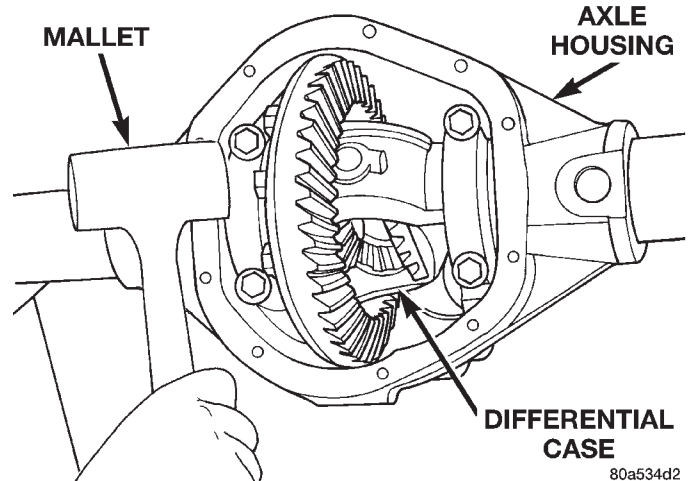
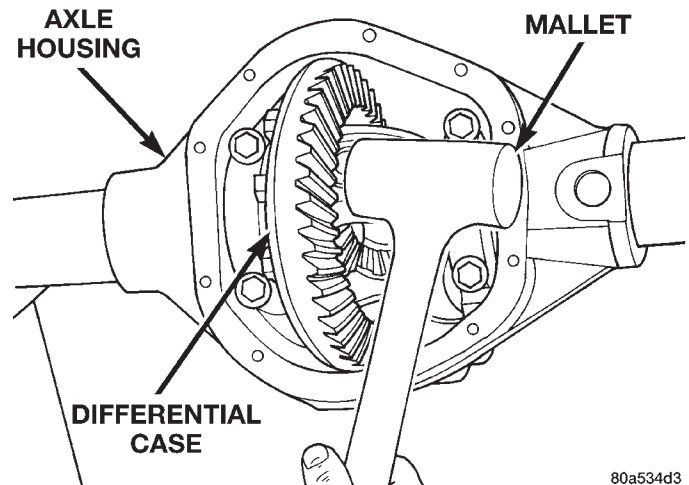

Fig. 66 Seat Pinion Gear Side Differential Dummy Bearing
Fig. 67 Seat Ring Gear Side Differential Dummy Bearing
- (7) Using a dead-blow type mallet, seat the differential dummy bearings to each side of the axle housing (Fig. 66) and (Fig. 67).
- (16) Rotate dial indicator out of the way on guide stud.
- (17) Remove differential case and dummy bearings from axle housing.
- (18) Install pinion gear in axle housing. Install the pinion yoke and establish the correct pinion rotating torque.
- (19) Install differential case and dummy bearings D-345 in axle housing (without shims), install bearing caps and tighten bolts snug.
- (20) Seat ring gear side dummy bearing (Fig. 67).